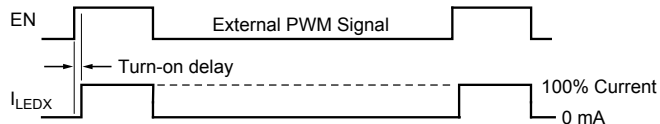

Figure 2: Timing Diagram of External PWM Signal and LED Current
- PWM dimming using the EN pin. PWM dimming is performed by applying an external PWM signal on the EN pin. When the EN pin is pulled high, the A8501 turns on and all enabled LEDs sink 100% current. The sequence is shown in Figure 2. For optimal accuracy, the external PWM signal should be in the range 100 to 300 Hz. The slight delay between PWM signal and the LED current causes an error. To compensate for the error, a small turn-on delay should be added to the PWM signal as shown on page 10 of the Performance Characteristics section. When EN is pulled low, the boost converter and LED sinks are turned off. The compensation (COMP) pin is floated, and critical internal circuits are kept active. If EN is pulled low for more than t_{PWML}, the device enters shutdown mode and clears all internal fault registers. As an example, for a 2 MHz clock, the maximum PWM low period while avoiding shutdown is 65 ms.